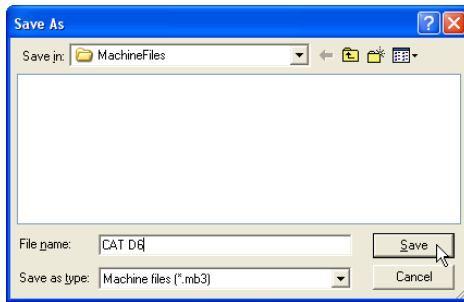

Figure 2-19. Create New Equipment File
2. Type a name for the new equipment file (Figure 2-19), or select a current equipment file, and click **Open**.